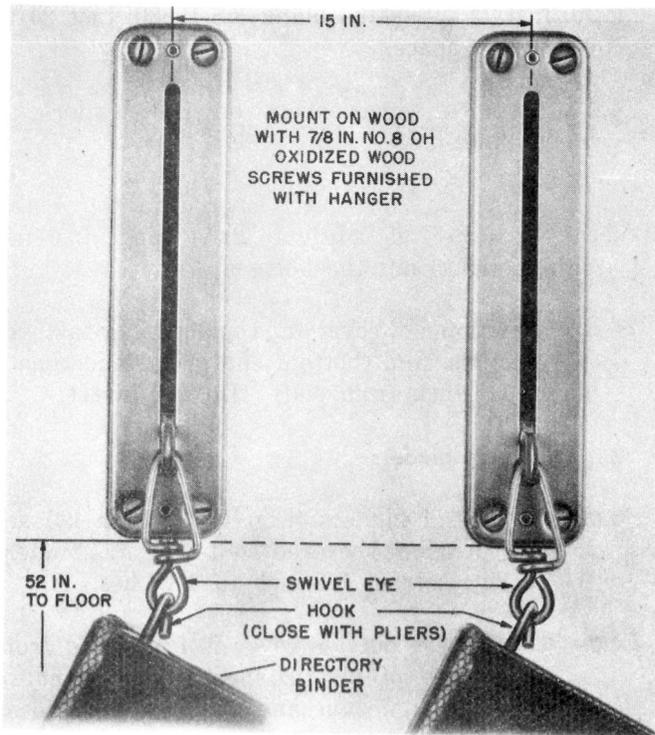

Fig. 2—KS-7302 Hanger Installation
- Outside panels of wood booths (Fig. 2).
- Wall surfaces with the use of backboards. Install in same manner as shown in Fig. 2.